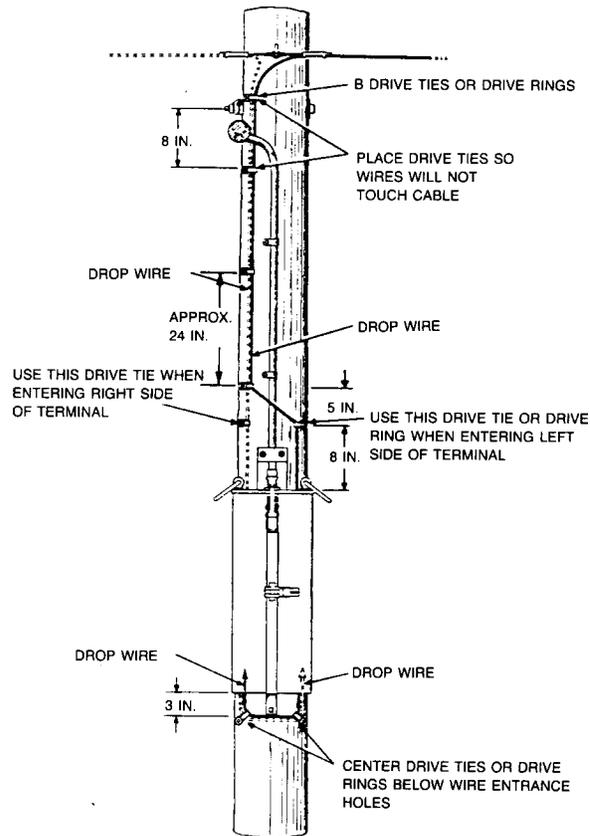

Fig. 15 - Running Drop Wire at Cross-Connecting Terminal
- (1) Place B drive ties on the pole as shown in Fig. 15